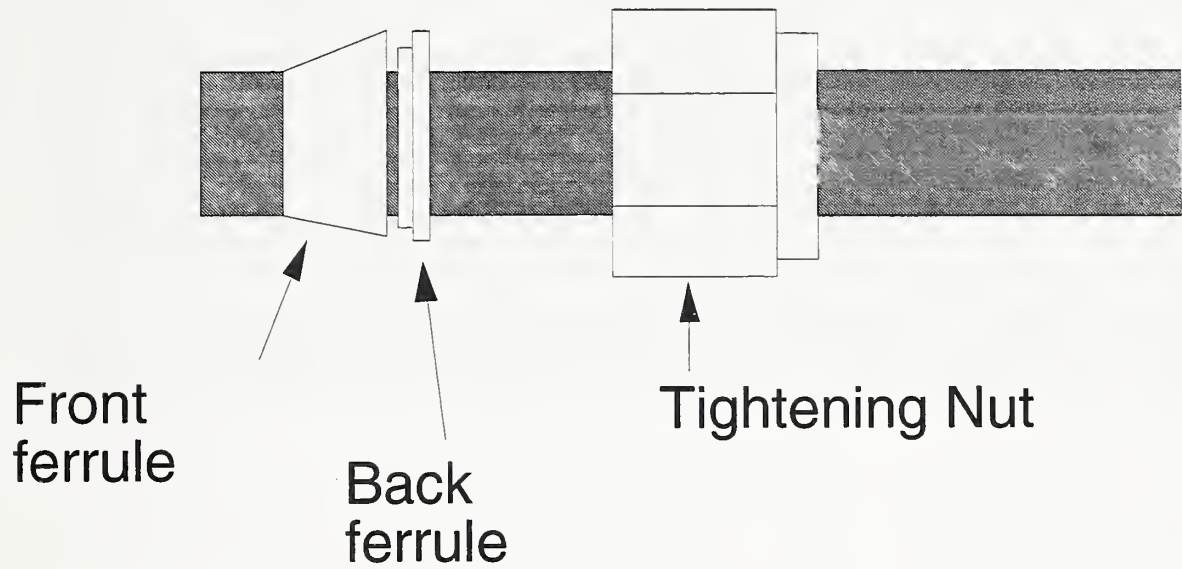

Figure 26. Air hose assembly parts
Refer to Figure 26 on page 61, for clarification of parts and procedure.
4. Slide the tightening nut, then the new back ferrule, and finally the new front ferrule onto the end of the hose (refer to Figure 26 on page 61 for the correct alignment). Insert the hose end into the open end of the quick-connect adapter. Push in on the hose end until it stops.